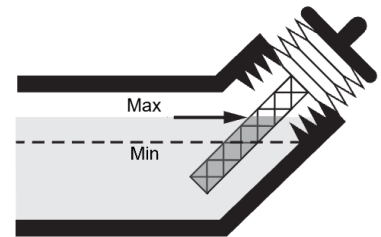

Fig. 7
- Clean the area around the oil filler and remove the engine oil filler cap (11).
- Remove the dipstick and check that the oil level is between the MIN and MAX marks. See Fig. 7 for illustration.